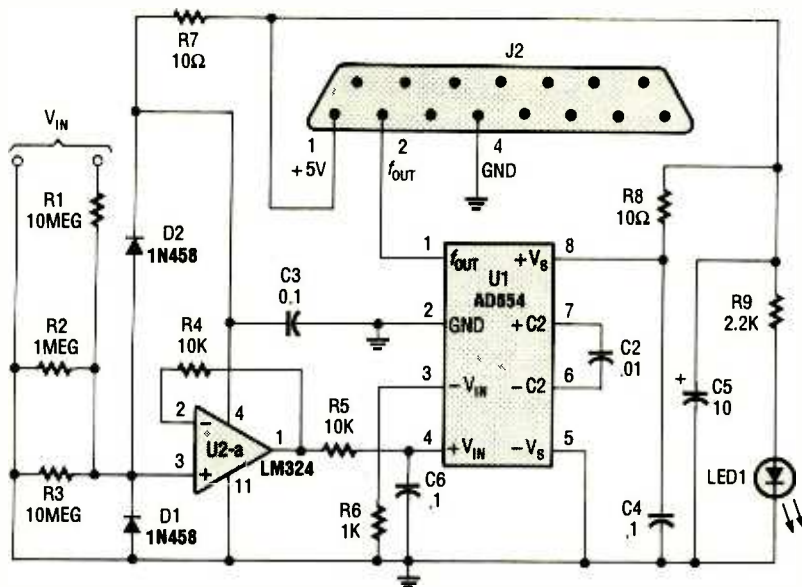

Fig. 1. Effectively, the adapter can be broken down into a voltage-to-frequency adapter with a signal-conditioner/protection-circuit at the front end.
If you do not plan to use DIP switch S1, you need to give some thought to the address(es) you want to set the unit for. By referring to Fig. 1, you will see that the address decoding is very straightforward. Diodes D2 through D10 are used to decode number keys 1 through 9 respectively. If the DIP switch is not installed, you must wire a jumper across the switch for the numbers that you wish to decode. Once all components are soldered in place, check your work for the usual construction errors.
**The Circuit.** Looking at the schematic diagram in Fig. 1, you will notice that there are only two active components: U1 and U2. Taking U1 first, it is an Analog Devices AD654, which is the actual analog-to-digital converter. More accurately, it is a voltage-to-frequency converter; it accepts an analog input voltage (the difference between its  $-V_{in}$  and  $+V_{in}$  inputs)